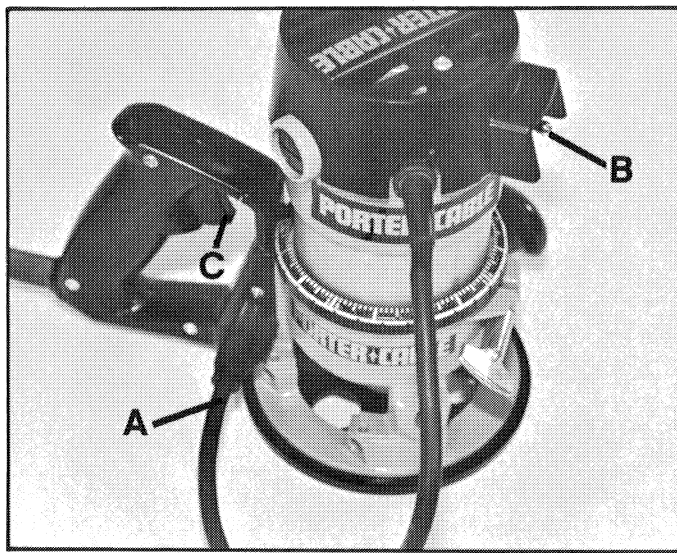

Fig. 10
When using the base with the switch-in-handle as shown in Fig. 10, be sure the Motor Unit power cord (A) is plugged into the handle as in Fig. 10, and the switch (B) on the motor is set to the ON position. The starting and stopping of the motor is then controlled by depressing and releasing the trigger switch (C) in the handle of base.
On applications when it is desirable to keep the motor running without continually holding in the trigger switch (C) Fig. 10, simply depress the trigger (C) into the handle and press in the switch locking button on the side of the handle. While holding the button in, slowly release the trigger. To stop the motor, squeeze trigger into handle and release to disengage locking button.